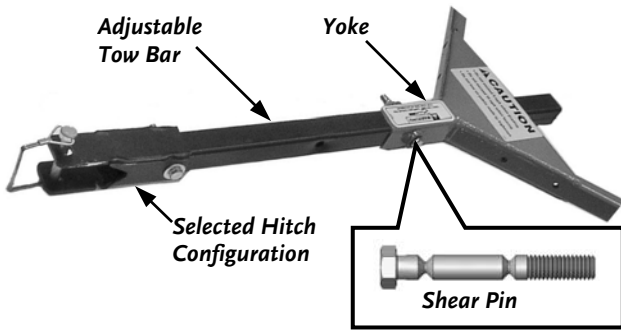

Figure 13
1. Select the appropriate hitch configuration and using two (2) 1/2" Wrenches, attach the hitch to the Adjustable Tow Bar with two (2) 5/16"-18 x 2-1/2" Bolts, 5/16" Flat Washers, and 5/16"-18 Lock Nuts (**Figure 13**).
- USE ONLY THE SHEAR PIN PROVIDED; USE OF ANY OTHER BOLT MAY CAUSE DAMAGE TO YOUR DR POWER GRADER. SEE FIGURE 13.
- THERE ARE TWO (2) EXTRA SHEAR PIN PROVIDED. STORE THEM WITH YOUR OPERATORS MANUAL OR IN A SAFE LOCATION. KEEP ONE WITH YOU WHEN GRADING.
2. Insert the Adjustable Tow Bar into the front of the Yoke and align the holes between the Yoke and Tow Bar to suit the correct towing distance from your vehicle (**Figure 13**). Using two (2) 9/16" Wrenches, bolt the Tow Bar in place using the 3/8"-16 Shear Pin and 3/8" Lock Nut supplied.